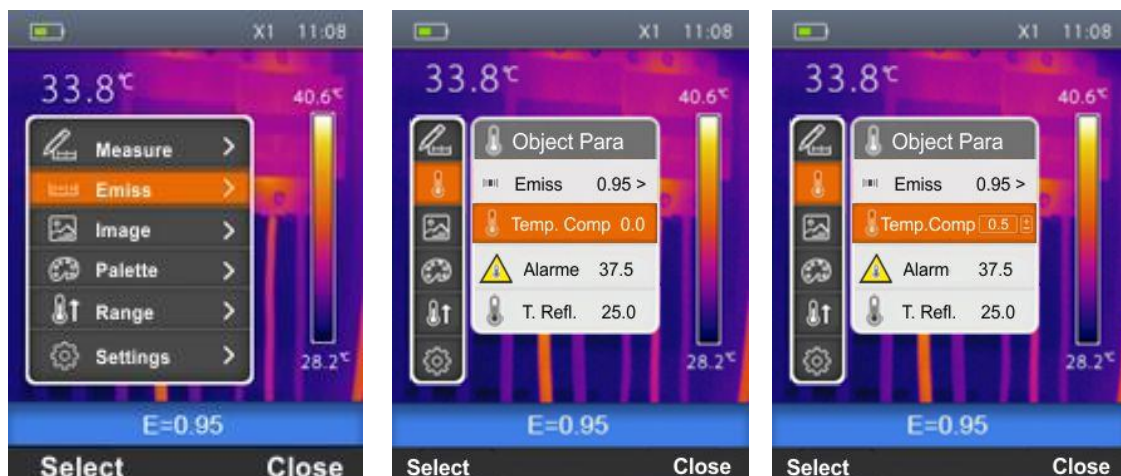

Fig. 19: Setting temperature compensation on the instrument
1. Select the item "Emiss" with the keys \oplus or \ominus and press the key \Rightarrow . The screen Fig. 19 – Central part is shown on the display.
2. Use the keys \oplus or \ominus to select the item "Temp.Comp" and press the key "Select". The screen Fig. 19 – Right side is shown on the display